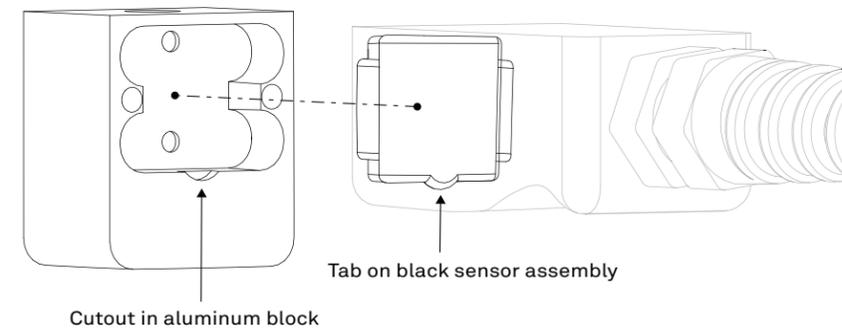

Figure 56 Align tab and notch
- Align the half-circle tab on the lower edge of the black plastic sensor assembly with the half-circle cutout on the aluminum block (Figure 56).